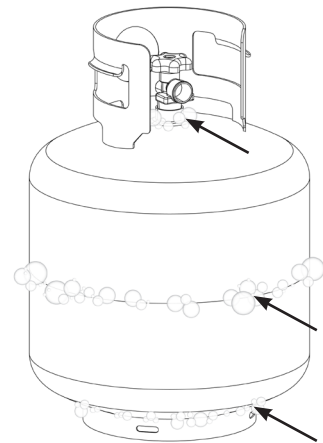

Figure 01
1. Use a clean paintbrush to brush a 10/90 mild soap and water solution onto joint areas of the LPG cylinder (indicated by arrows in Figure 01).